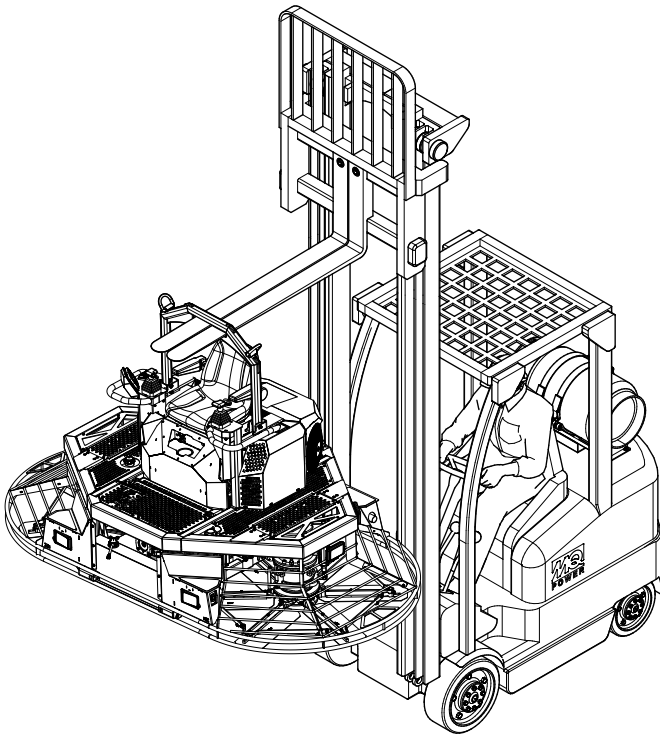

Figure 6. Lifting the Trowel (Forklift Pocket)
2. Insert forklift forks through the forklift pocket (Figure 6) at the top of the lifting bail.